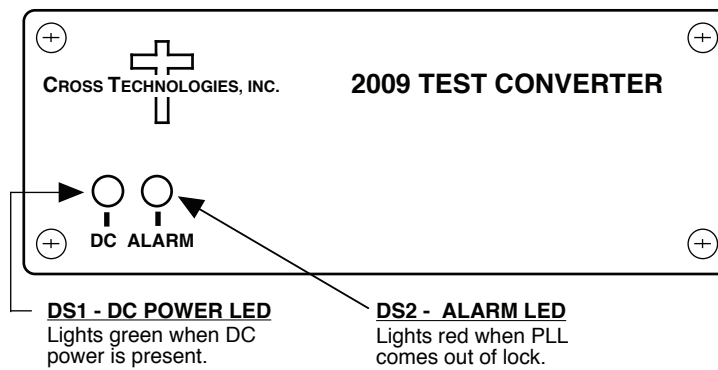

FIGURE 2.2 Model 2009-59 Front Panel Indicators
Figure 2.2 shows front panel indicators.
4. Be sure DS1 (green, DC Power) is on and DS2 (red, Alarm) is off (Figure 2.2).